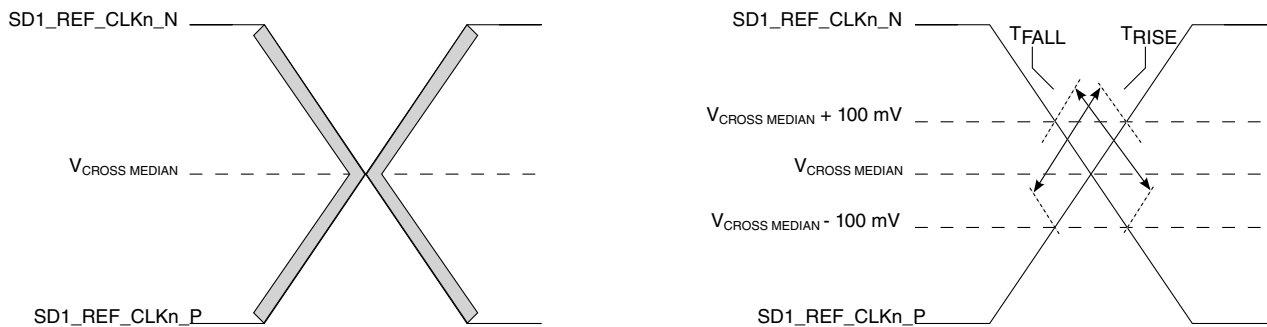

Figure 38. Single-ended measurement points for rise and fall time matching
- Matching applies to rising edge for SD1_REF_CLKn_P and falling edge rate for SD1_REF_CLKn_N. It is measured using a 200 mV window centered on the median cross point where SD1_REF_CLKn_P rising meets SD1_REF_CLKn_N falling. The median cross point is used to calculate the voltage thresholds that the oscilloscope uses for the edge rate calculations. The rise edge rate of SD1_REF_CLKn_P must be compared to the fall edge rate of SD1_REF_CLKn_N, the maximum allowed difference should not exceed 20% of the slowest edge rate. See Figure 38.